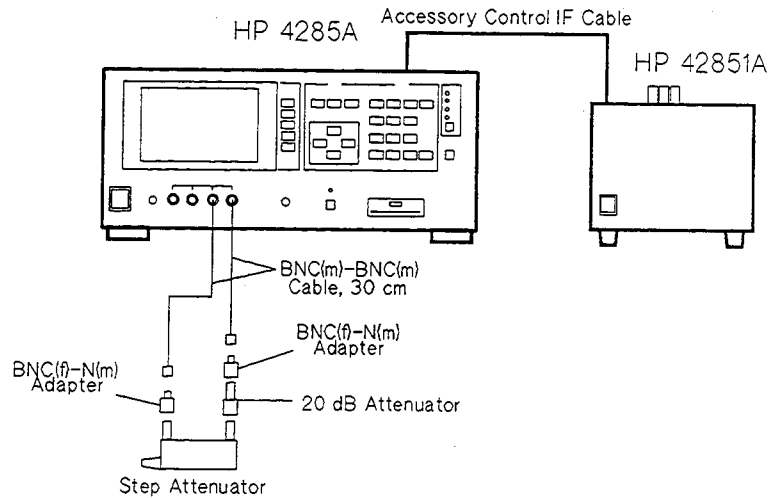

Figure 1-16. Voltage Ratio Monitor Accuracy Test Setup
1. Set up the equipment as shown in Figure 1-16. The HP 4285A is connected to the HP 42851A, using the Q Adapter Control Interface Cable.